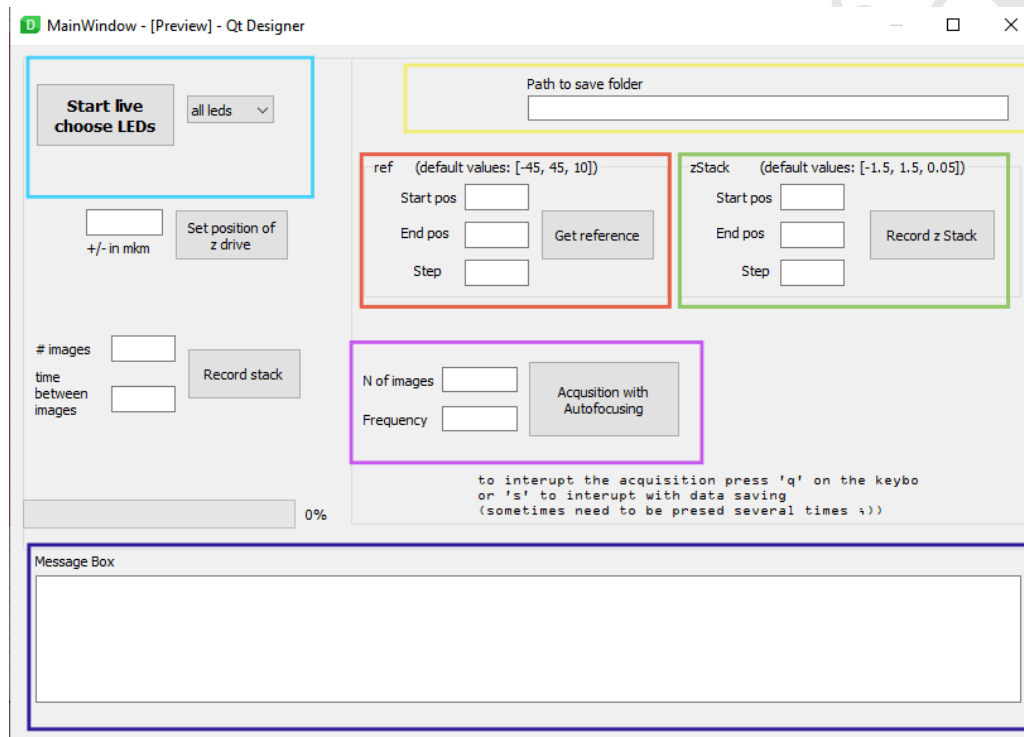

Figure 2: GUI window for oblique illumination setup
1. Insert the path to the designated save folder. (figure 2, yellow box).
2. You have the option to choose whether to use all four LEDs for illumination while viewing the live feed or to select a specific LED. It is advisable to check the illumination provided by each LED and adjust the fiber positions around the objective if necessary, just prior to acquisition (figure 2, blue box). Furthermore, the use of all four LEDs simultaneously for illumination simplifies the process during live viewing of the sample.
3. Then the reference images need to be acquired. In our case (piezo nanopositioner with range of 100 μm) we use by default the z-stack in the range of -45:45 μm with step of 10 μm (figure 2, red box). These images are further averaged.
4. Further the reference z-stack need to be recorded (figure 2, green box).
5. In order to start the acquisition with active autofocus, enter the number of images and the autofocus frequency (figure 2, purple box).